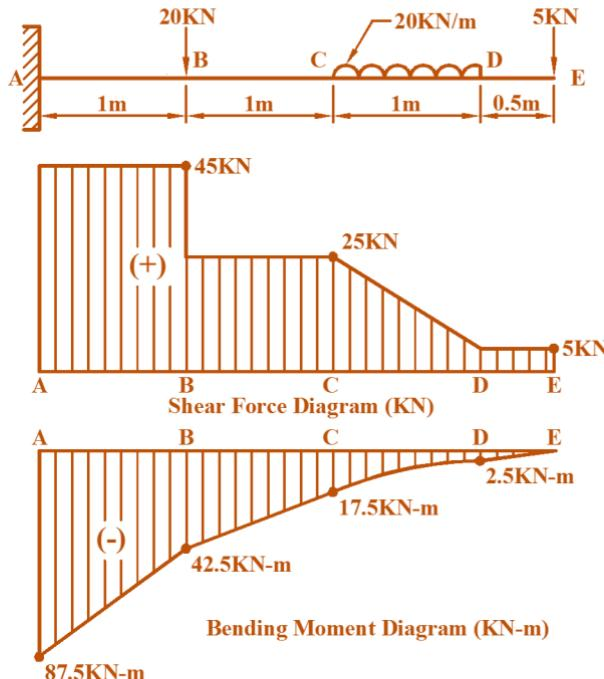

Fig.P7.6 SF and BM diagram [Example 7.6]
*Draw the shear force and bending moment diagrams for the loaded beam shown in the fig.P7.6*